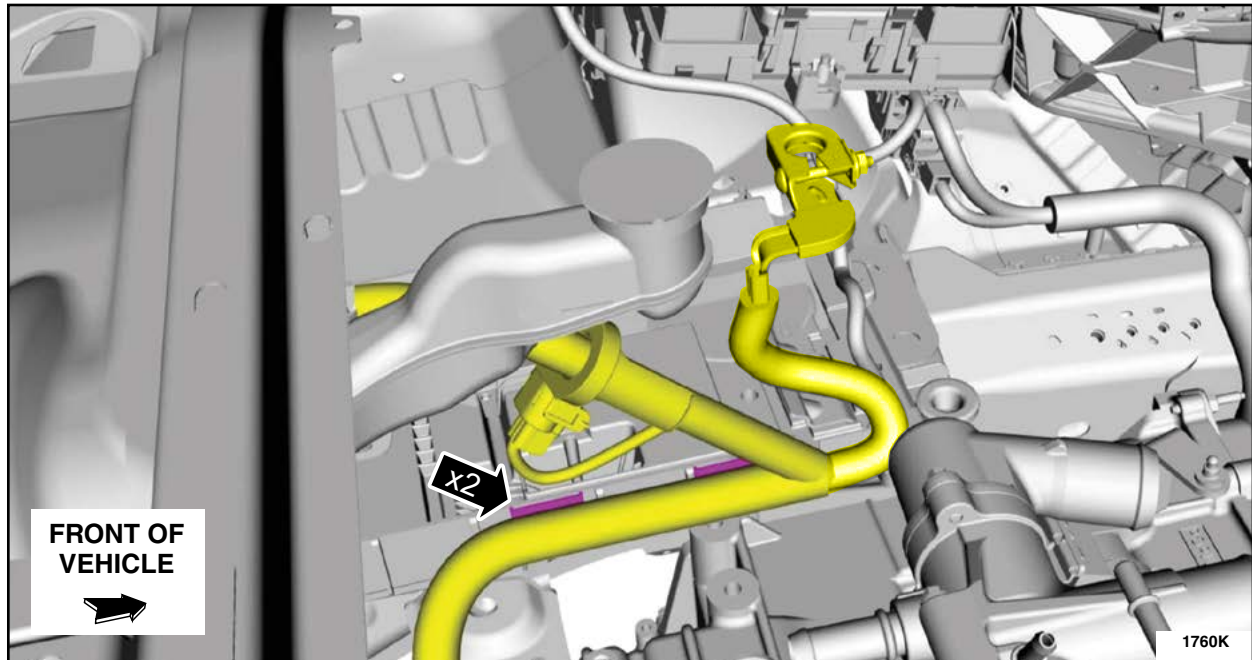

FIGURE 1
2. Detach the battery cable wiring harness retaining clips from the inboard side of the battery tray and position aside the battery cable wiring harness. See Figure 1.
6. Install the shield onto the inboard side of the battery tray. Install two special retainers to the inboard side of the battery tray (where the battery cable wiring harness clips were previously removed - see Figure 1) and one special retainer in the front of the shield (installed from the battery tray side toward the engine). See Figure 5.